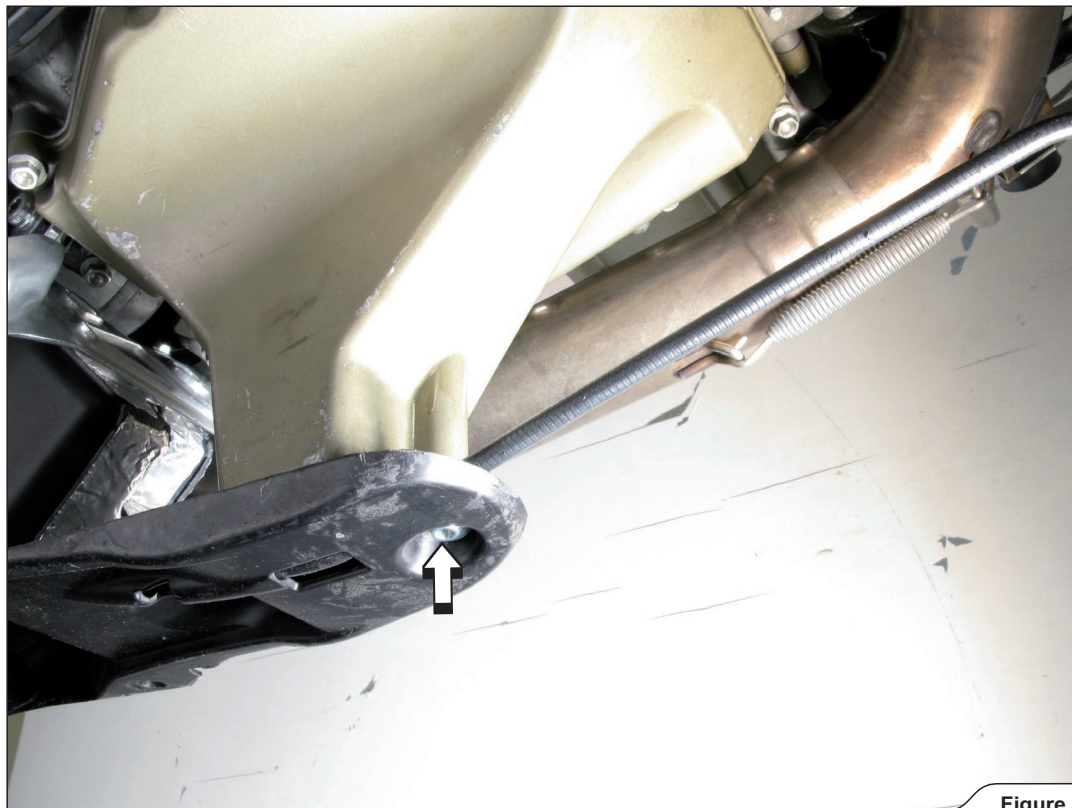

Figure 9
6. Unscrew the marked bolt and remove the exhaust valve's servo motor with cable off the motorcycle (Figure 9, 10).